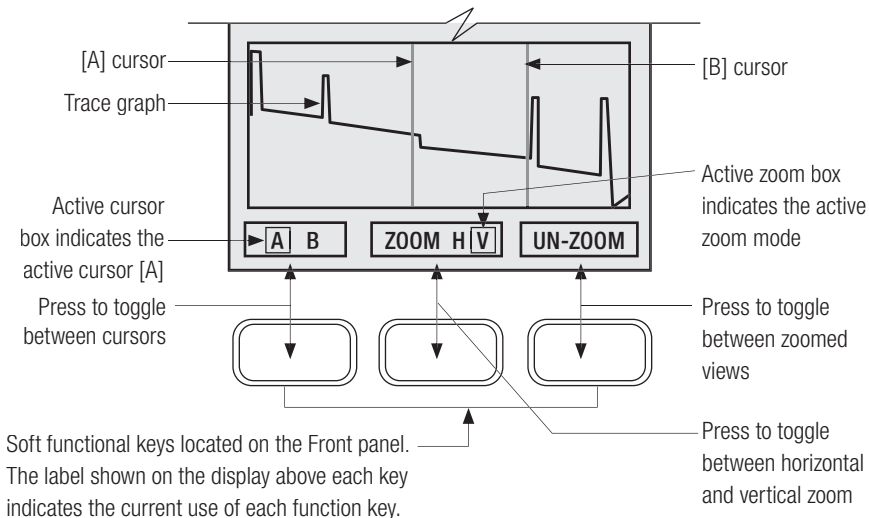

Figure 5-1. Moving cursors.
- 1 Press the [A/B] soft key to toggle between cursors (refer to Figure 5-1).